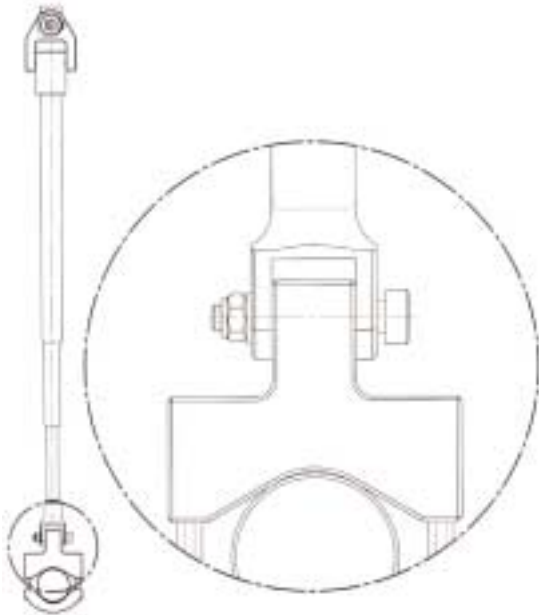

Fig 1
2. Check that there is no excessive play in the clamp/yoke link (see Fig 1).